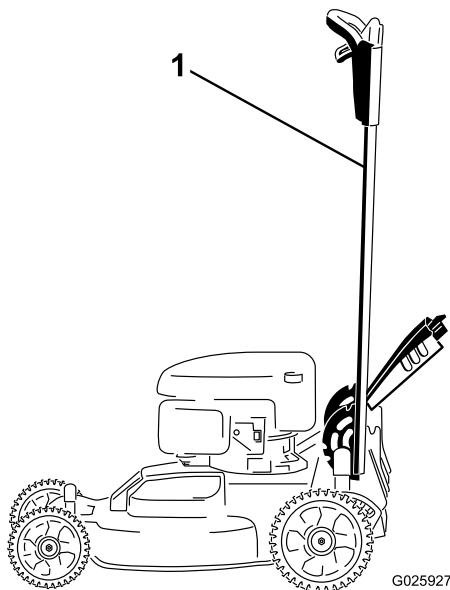

Figure 31
1. Lock the handle in the vertical position (Figure 31); refer to Adjusting the Handle Height (page 11).